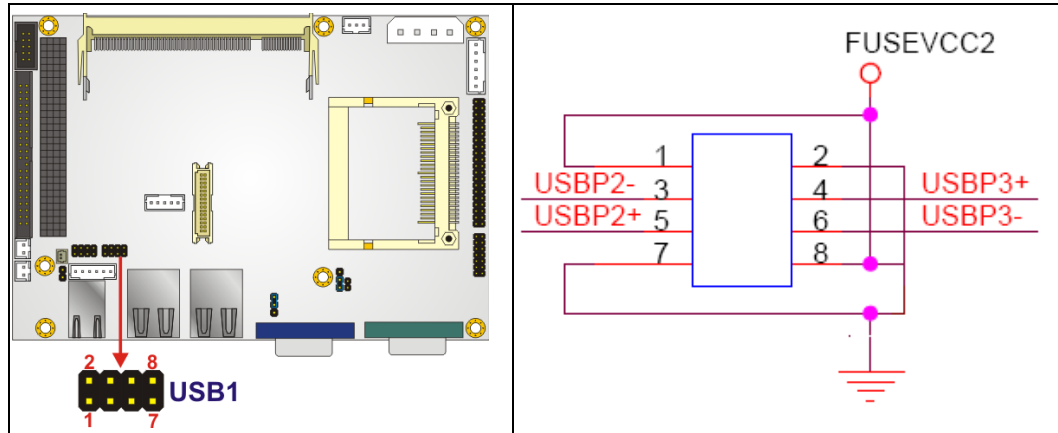

Figure 4-16: Internal USB Connector Location
- CN Location:** See **Figure 4-16**